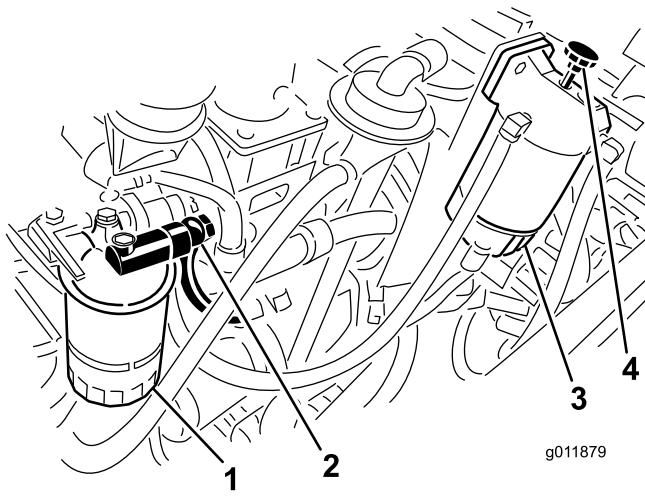

Figure 64
5. Loosen the banjo fitting on the fuel-filter housing (Figure 64).
6. Operate the water-separator priming pump until a solid stream of fuel is detected at the banjo fitting (Figure 64).